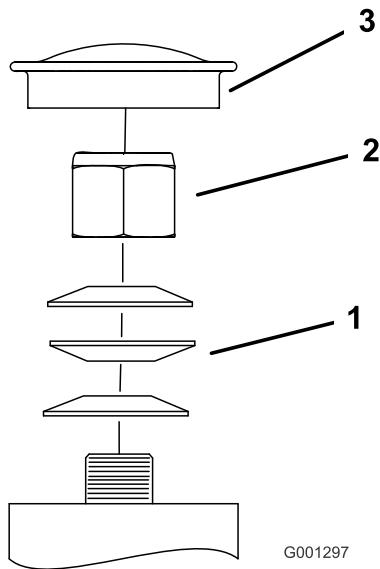

Figure 52
3. Remove the dust cap from caster and tighten lock nut (Figure 52).
4. Tighten the locknut until the spring washers are flat and then back off a 1/4 turn to properly set the pre-load on the bearings (Figure 52).
**Important:** Make sure spring washers are installed correctly as shown in Figure 52.
5. Install the dust cap (Figure 52).